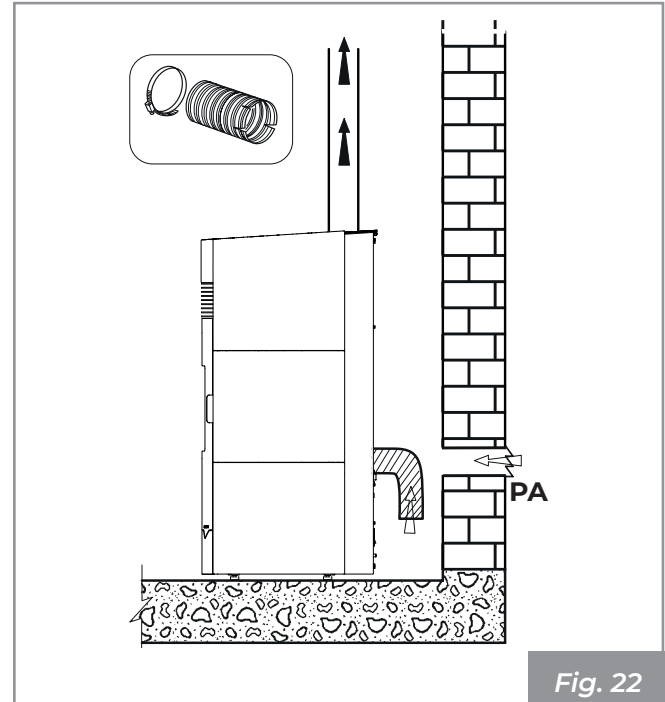
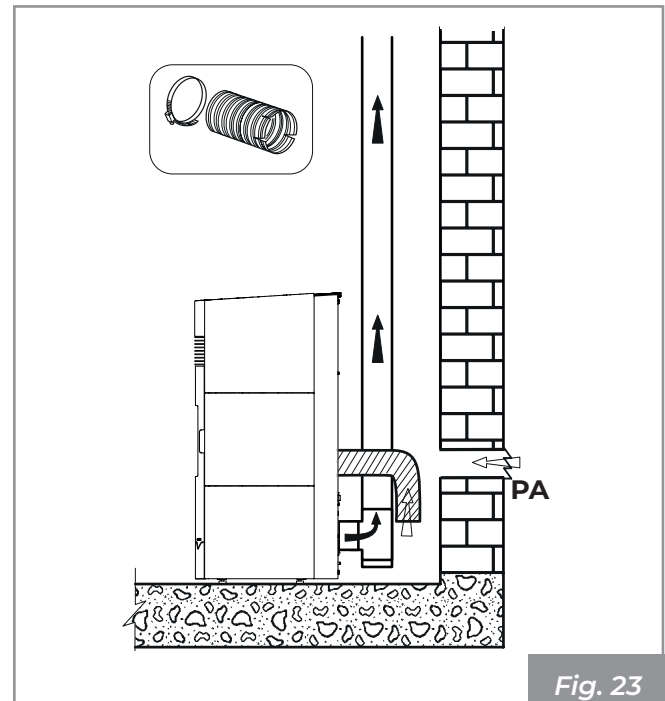

Fig. 22
Fig. 23
- it can come from the installation room or suitable adjacent rooms (**Fig. 22 - Fig. 23**)
Create the air intake on the wall (**Fig. 22 and Fig. 23 - PA = Air Intake**), and leave the appliance to withdraw the room air, making sure to connect the section of corrugated pipe on the air inlet pipe, if supplied, fixing it with the strap and folding it slightly downwards to prevent any resonance effects.